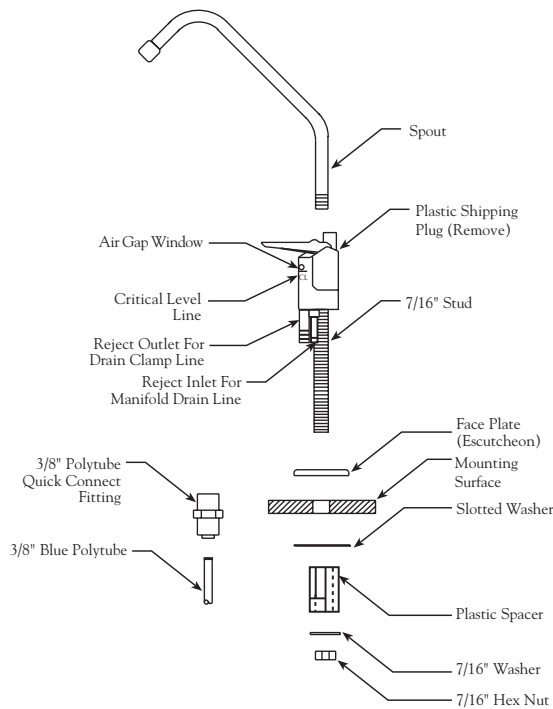

Figure 2
3. Assemble and attach the Faucet (refer to Fig. 2 above).
- Check the Air Gap Window on the Dispensing Faucet to be sure that the drain water is flowing. (Refer to Figure 2, page 8.) The R.O. System is now making water.